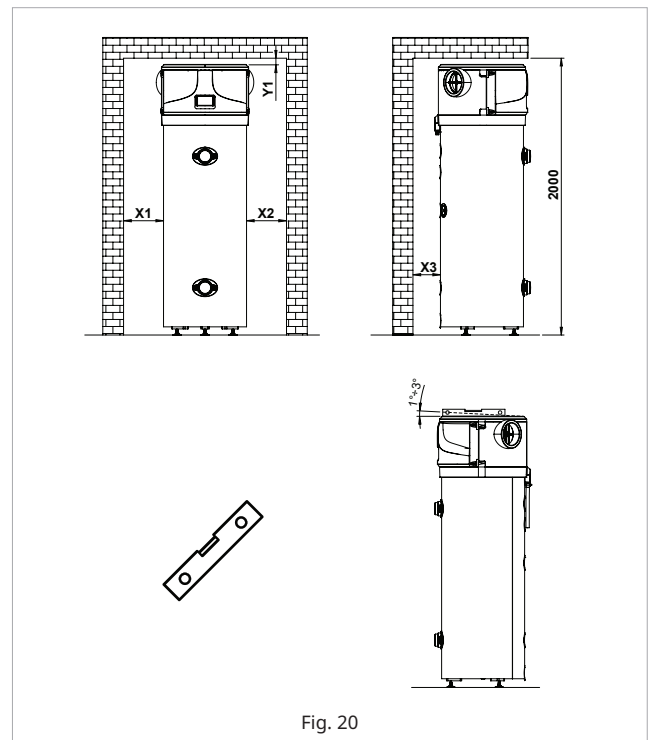

Fig. 20
- Provide possibility for the appliance to be vertically installed or with small incline backwards: $1 \dots 3^{\circ}$ see Fig. 20